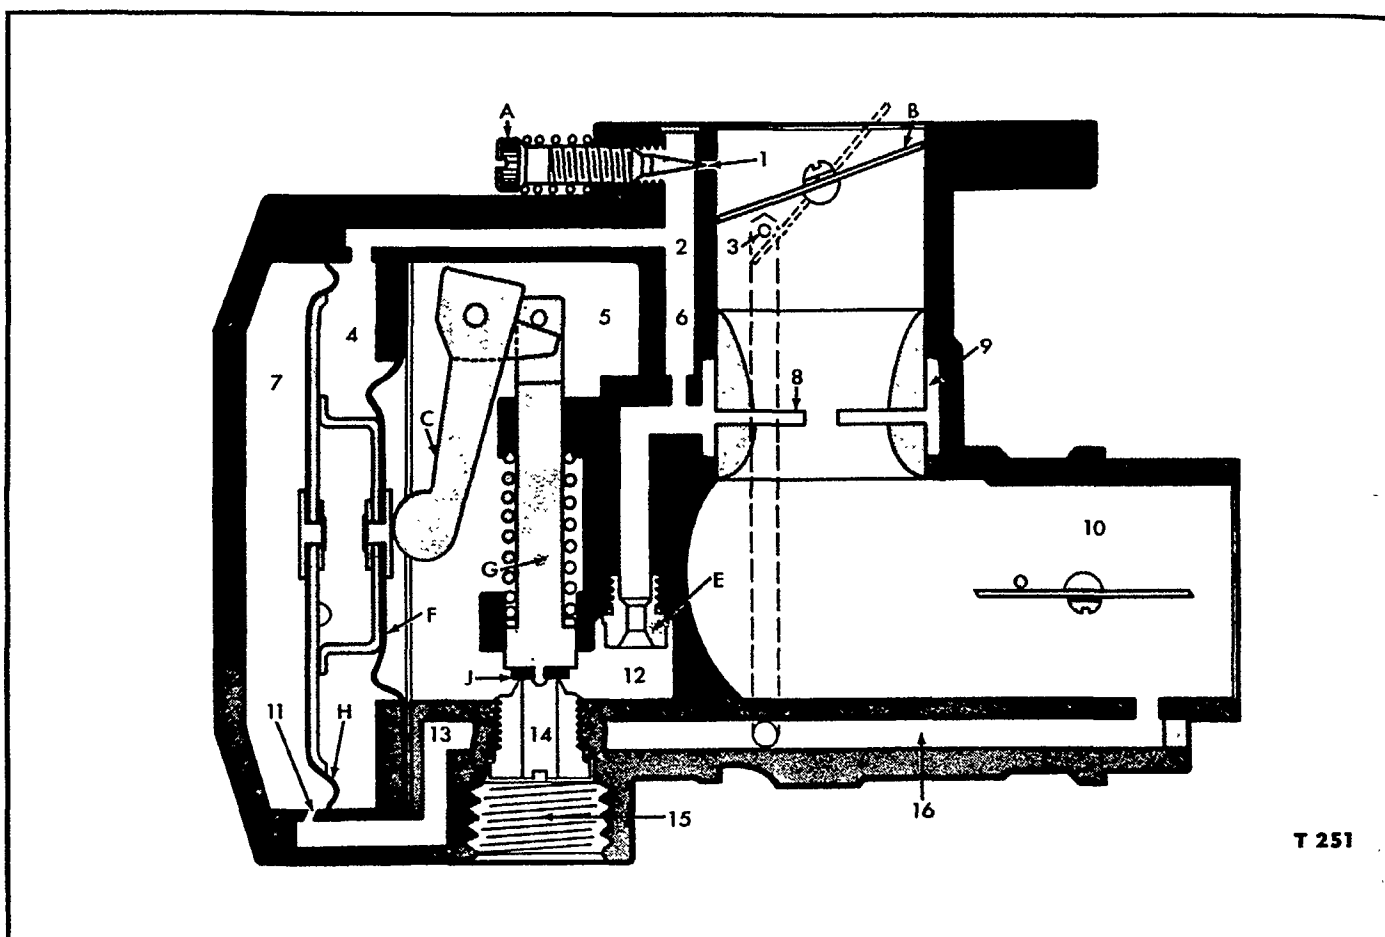

Figure 3—LP-Gas Carburetor—Sectional View—
The fuel pressure at the fuel inlet (15), Figure 3, is controlled by the primary regulator in the fuel system and is set at 10 psi. The diaphragm chamber (7), receives ventilation through the orifice (11), and channel (13), from the air intake (10). The diaphragm chamber (4), communicates directly to two pressure areas in the throttle body of the carburetor. Through channel (2) orifice (6) and annulus (9), fuel reaches the throat of the venturi (8). Through channel (2), and the idle fuel orifice (1), it connects into the area beyond the throttle plate (B). The pressure transmitted to the diaphragm chamber (4), will vary with the position of the throttle plate. Thus, whichever of the two areas (above the throttle plate or at the throat of the venturi) produces the lower pressure will be most influential in the movement of the diaphragms (H) and (F). The position of these diaphragms controls the pressure in the fuel chamber (5).
If the idle fuel adjustment needle (A), were seated, the pressure across diaphragm (H) would be the same as the pressure difference between the air intake and the throat of the venturi. At idle speed, this pressure difference would be insufficient to cause the diaphragms to open the fuel inlet valve against the force of its spring. However, by opening the idle fuel adjustment needle (A), Figure 3, the low pressure prevailing above the nearly closed throttle plate can communicate through channel (2) to the diaphragm chamber (4) and create the necessary pressure difference across the diaphragm (H), to establish fuel flow. The size of the main jet (E), regulates the maximum flow of fuel.